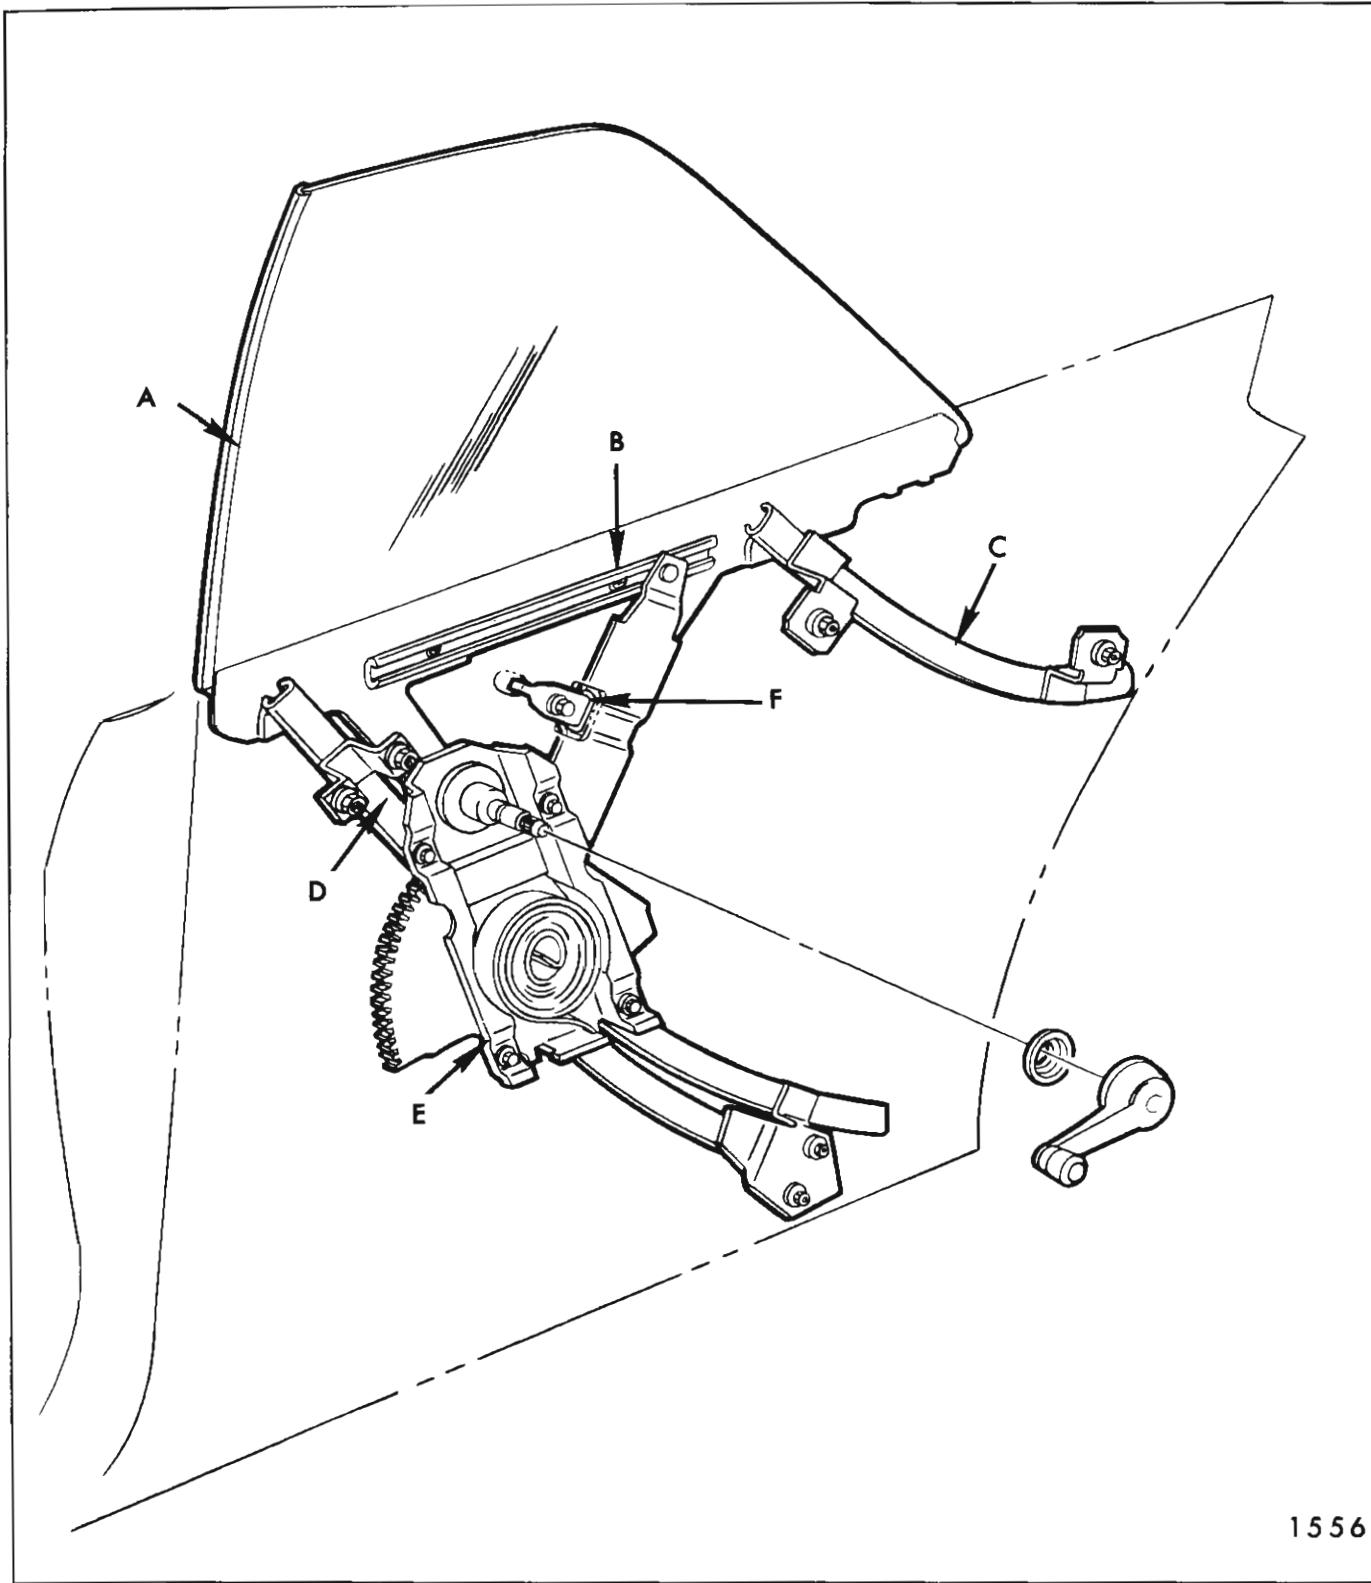

Fig. 2E30—Rear Quarter Hardware - "37" Styles
3. To adjust top of window "in or out", loosen front guide lower adjusting stud nuts (Fig. 2E29). Adjust studs in or out as required, then tighten stud nuts.
4. To relieve a "fore or aft" binding condition between front and rear guides, loosen front guide adjusting stud nuts and rear guide attaching screws (Fig. 2E29). Operate window to "full-up" position and tighten front guide upper adjusting stud nuts and rear guide upper attaching screw. Operate window to "full-down" position and tighten remaining stud nuts and screws.